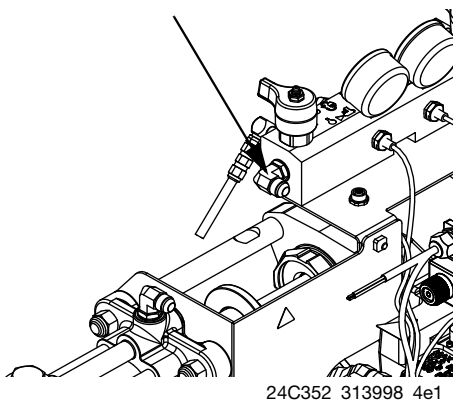

**FIG. 4**
4. See **FIG. 4**. Remove four nuts (D88) securing hydraulic driver to hydraulic power pack. This will also loosen manifold plate (MP) from hydraulic driver. Remove manifold plate. Remove hydraulic driver.